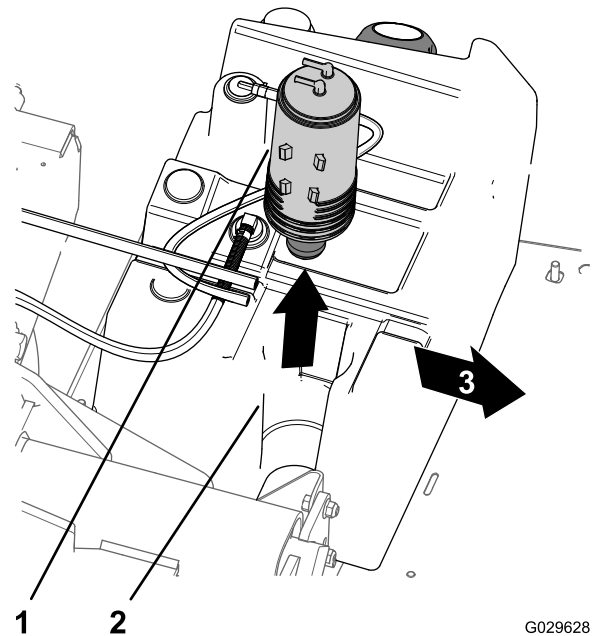

Figure 45
- Lift the carbon canister from the carbon-canister mount in the fuel tank (Figure 45).
7. Insert the new carbon canister into the carbon-canister mount of the fuel tank with the purge and fuel tank fittings aligned rearward (Figure 45).